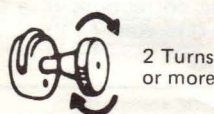

Fig. 5
2. **TEST PUMP** with Pump Knob in closed position (turn right), place thumb over hole in Pump Knob (Fig. 5) and pump. If little or no resistance is felt, oil or replace pump leather (see note below). If pump resists, go to Step 3.
3. Open Pump Knob by turning two (2) turns to left.
4. With thumb over hole in Pump Knob, pump 30 strokes of air into tank (Fig. 5). If tank is not full of fuel, more strokes will be required.